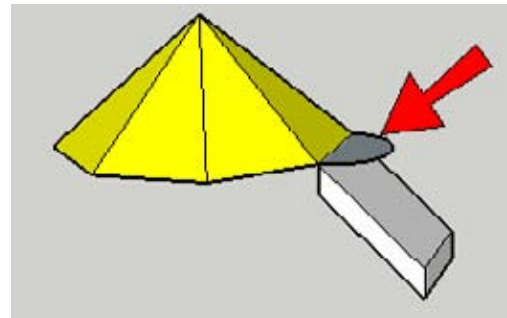

Figure 5-82
9. To cut a round shape into the flap, draw the horizontal arc face indicated in Figure 5-82.